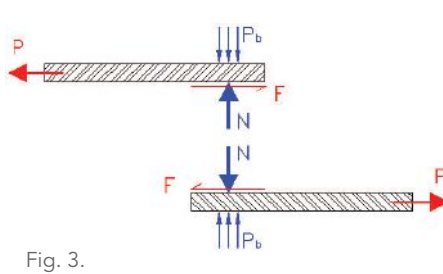

Fig. 3.
When an external load (P) is applied, a frictional resistance (F) to the external force is developed. (Figure 3).